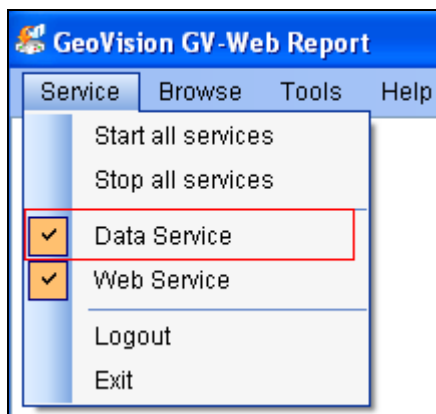

Figure 7-2
4. Select Web Service (Figure 7-2) to enable the Web interface of GV-Web Report.